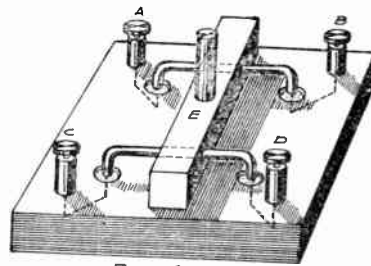
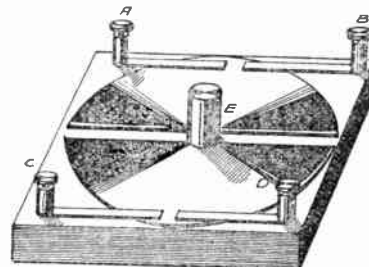

FIG 1
FIG 2
The simplest form of commutator is shown in Fig. 1. A piece of wood about four inches square and 1 1/2 inches thick is required for the base. Four holes 1/4 inch in diameter and 3/8 inch deep are bored in the base. Four binding posts are then screwed to the board a short distance from each hole and a short strip of copper run from each binding post into the holes. These holes are to be filled with mercury. A short strip of wood (E) is needed next, and pieces of heavy copper wire are passed through holes to this and are bent as shown. A
Another form of current reverser is shown in Fig. 2. Mercury cups are not required in this arrangement. A block of wood of the same dimensions as shown in Fig. 1 can be used. To each binding post copper strips are secured. The part in the center consists of a round piece of thin wood with a wooden peg fastened to it. Also to this round piece of wood secure with small tacks or glue two semi-circular pieces of copper as shown in the diagram. Turning the center part through 90 degrees reverses the current. The battery is connected to binding posts A and D.